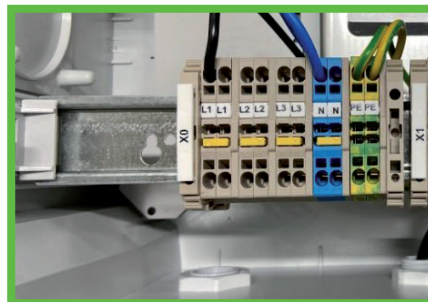

Figure 14 A: 230V connection PURE
- ▶ As an alternative, the supply line can also be inserted from the rear side. Open the M32 knock-out on the rear side of the housing and guide the line in to the housing using the M32 stepped nipple enclosed with the accessories. Disassemble the M25 cable gland on the bottom and seal the opening using the sealing plug enclosed with the accessories. Connect the electrical supply line (Abb. 14). The bicycle charging station offers an optional loop option for 3-phase supply lines. There are additional terminals present for applying 3-phases in the connecting area. The station itself may only be operated 1-phase with 230 V.